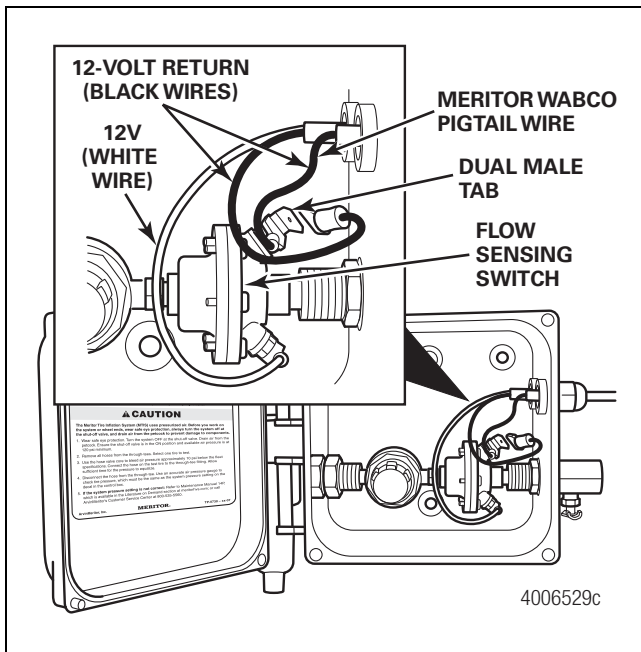
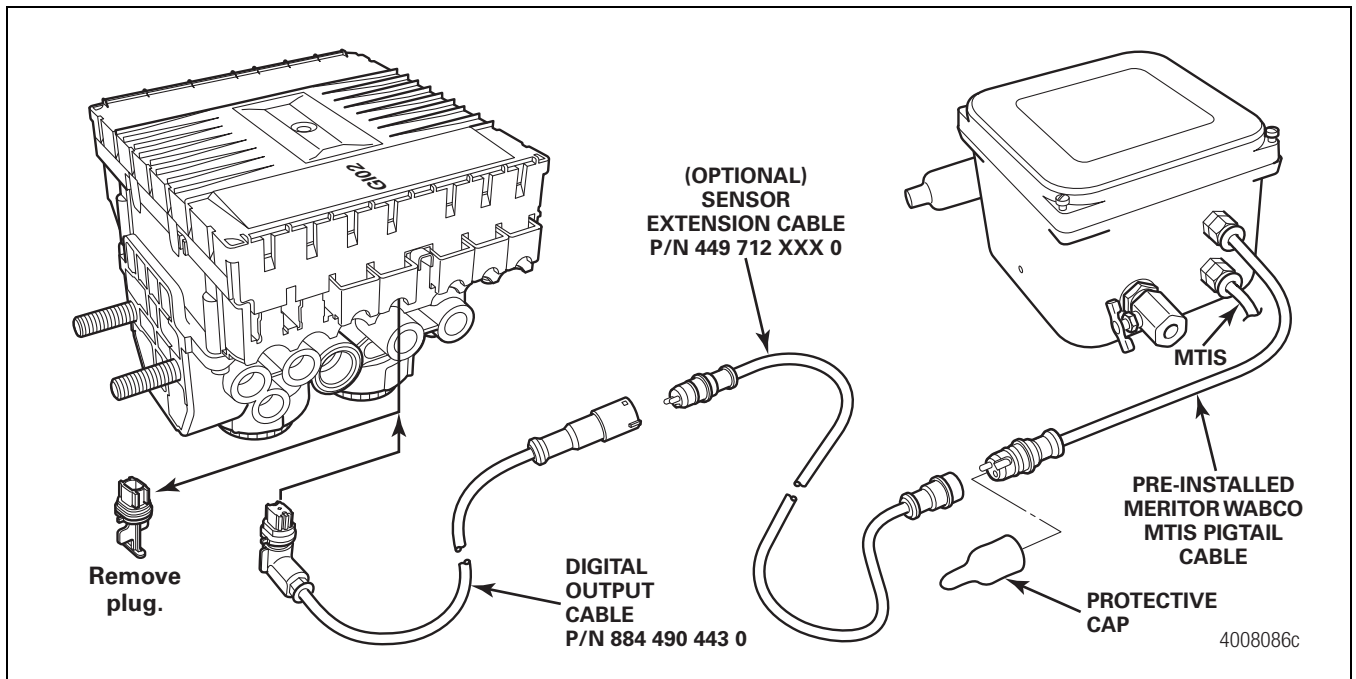

Figure 1
Figure 2
3. Install the MTIS control box with the Meritor WABCO MTIS pre-installed pigtail cable. Figure 1.
4. Insert the black and white wires of the MTIS electrical cable through the unused black locknut and into the MTIS box. Figure 1. Turn the black locknut **CLOCKWISE** to fasten securely. Figure 2.
5. Fasten the 12-volt return (black) wire terminal of the MTIS electrical cable onto the dual male tab as shown in Figure 1. Confirm that the 12-volt return (black) wire terminal of the Meritor WABCO MTIS pigtail cable is attached to the flow sensing switch as shown in Figure 1.
6. Fasten the 12-volt (white) wire of the MTIS electrical cable terminal onto the tab on the opposite side (bottom shown) of the flow sensing switch. Figure 1.
8. Connect the Meritor WABCO MTIS pigtail cable to the sensor extension cable. Figure 2.
9. Connect the sensor extension cable to the digital I/O cable, part number 884 490 443 0. Figure 2.